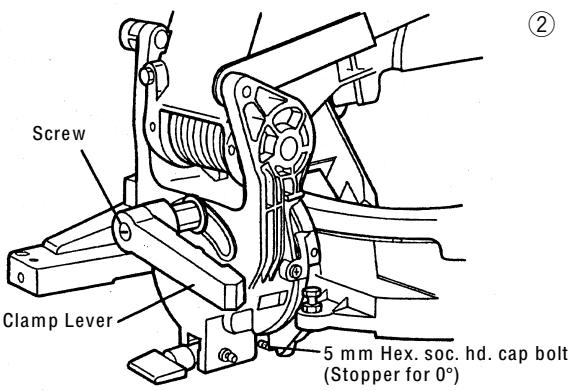

Fig. 7
- ② Assemble the clamp lever to the handle collar, then tighten the screw as shown in Fig. 7.
Before the power tool is shipped from the factory, it is adjusted for 0°, right angle, left 45° bevel cutting angle and right 45° bevel cutting angle with the 6 mm bolt (A), 6 mm bolt (B) and the 5 mm hex. soc. hd. cap bolt (C) (see Fig. 7).
When changing the adjustment, change the height of the 6 mm bolt (A), 6 mm bolt (B) or the 5 mm hex. soc. hd. cap bolt (C) (see Fig. 7) by turning them. (Maximum bevel cutting angle is 45°).